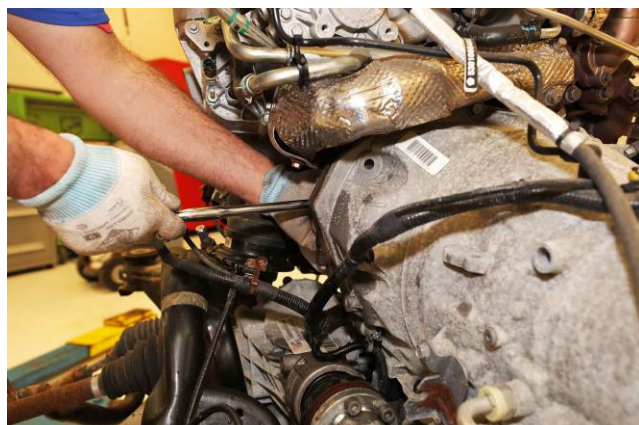

Figure 39 – Torque Converter Bolts
82. While holding the crank, remove the torque converter bolts through the start motor opening (Figure 39).